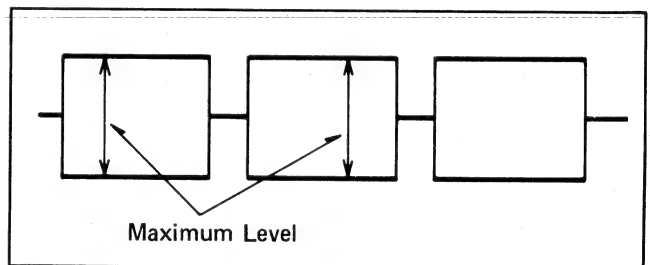

Fig. 17
3. Adjust Focus Control VR6001 for maximum signal level as shown in Fig. 17.